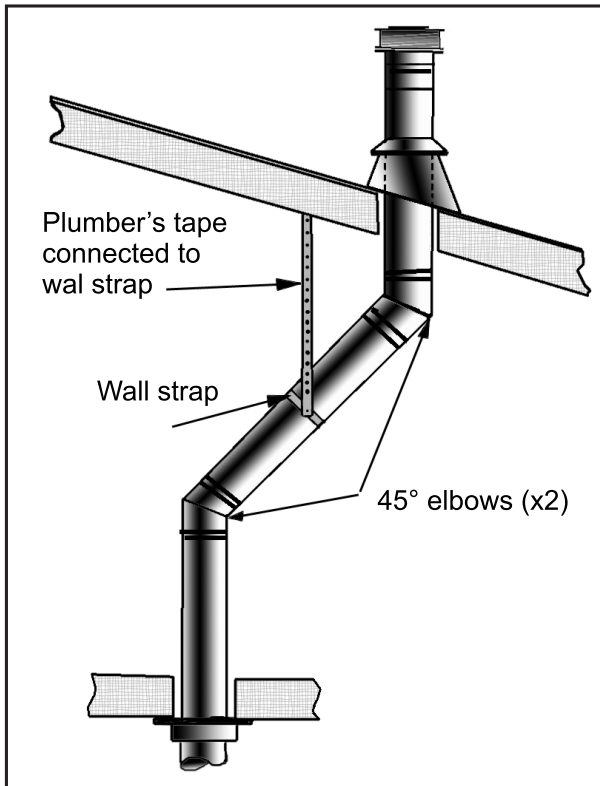
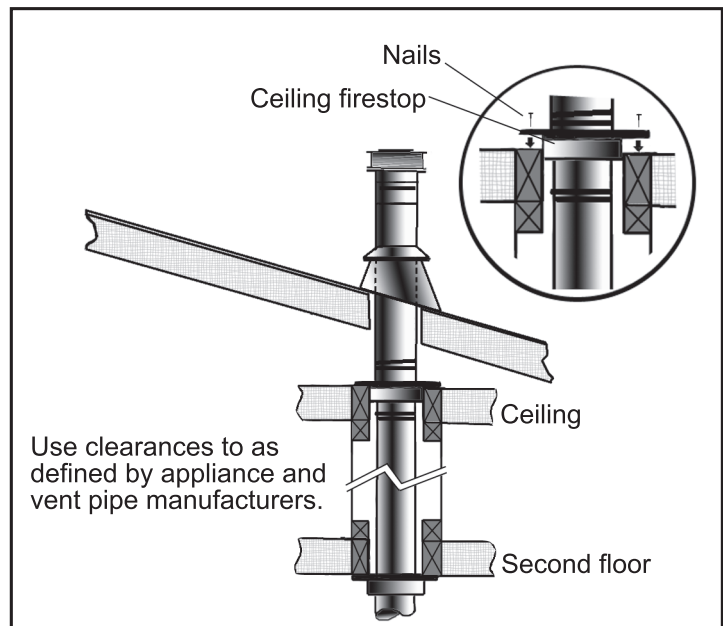

Figure 64: Use of Wall Straps
Figure 65: Multi-Story Vent Pipe Installation
- (1) If an offset is necessary in the attic to avoid obstructions, it is important to support the vent pipe every **3' (914 mm)**, to avoid excessive stress on the elbows, and possible separation. Wall straps are available for this purpose (see Figure 64).
- (2) When ever possible, use 45° degree elbows instead of 90° degree elbows. The 45° degree elbow offers less restriction to the flow of flue gases and intake air.
- (3) For multi story installations; a ceiling firestop is required at the second floor, and any subsequent floors (see Figure 56). The opening should be framed to **10" (254 mm) x 10" (254 mm)** inside dimensions, in the same manner as shown in Figure 65.